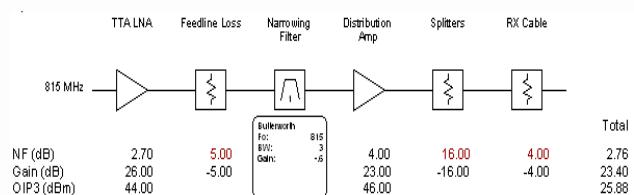

Figure: 2
**Figure: 2** shows a system that uses a TTA. The front end LNA compensates for the feedline loss in this case, so the overall system NF is only approximately 2.8dB.